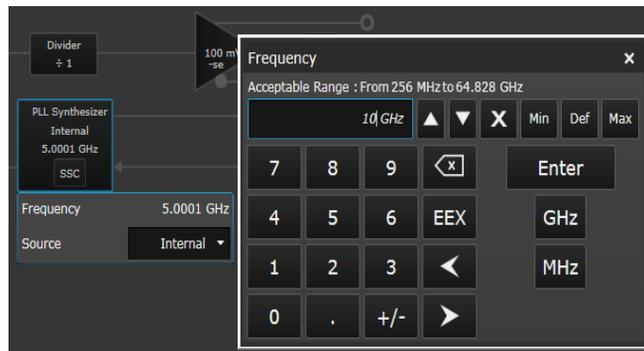

Figure 35 Set frequency to 10 GHz
- d Using the numeric keypad, enter **10** then click on the **GHz** button as shown in Figure 35 on page -83. If your system has a maximum data rate of 8 Gb/s, leave the frequency setting at 5 GHz.